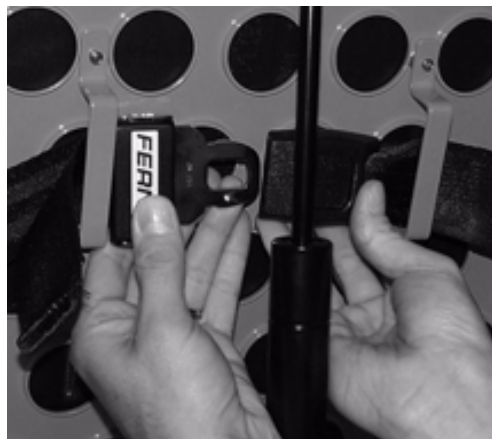

Figure 13 – Fastening the Pedi-Mate™ Buckle
4. Wrap the straps around the backrest and insert the ends of the straps through the brackets. Securely fasten the buckle (see Figure 13).